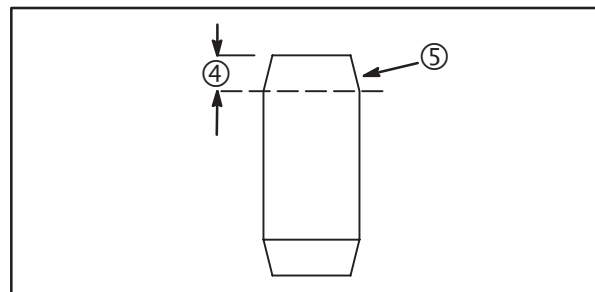

Fig. 12
4. Grind off the taper (5), approximately 1/8" (3 mm) (4), from one end of new roll pin as shown, **Fig. 12**.